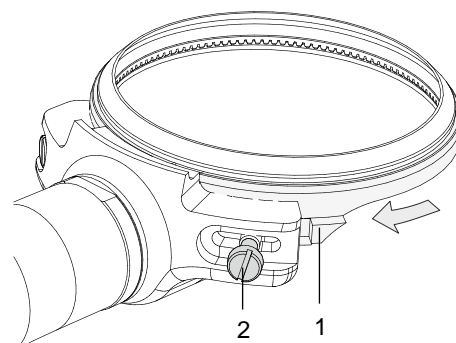
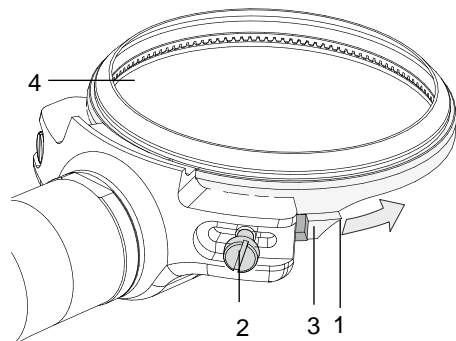

Fig. 7.5 – Adjusting the blade play (1)
Fig. 7.6 – Adjusting the blade play (2)
- 1) Compress the knife fixture (1) slightly with one hand and hold it, see Fig. 7.5.
- 2) Screw the screw (2) slightly in with the other hand until the knife fixture remains in this position.
- 3) Insert the screwdriver into the gap (3) between the housing and knife fixture (1) and slightly open the knife fixture with the screw (2) until the blade (4) can be moved freely over the entire angle of rotation, see Fig. 7.6.
- 4) Tighten the screw (2), see Fig. 7.6.